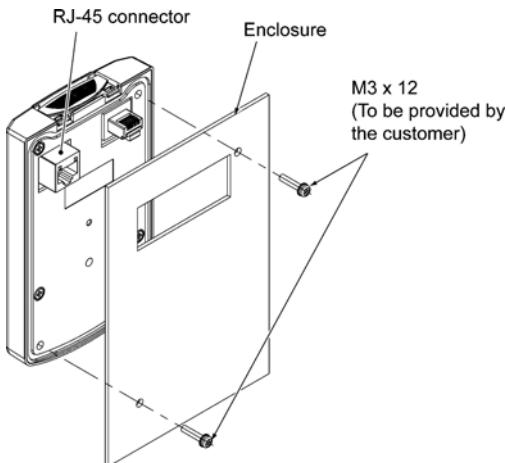

Figure 2.8 Mounting Multi-function Keypad
- ② Mount the multi-function keypad onto the enclosure with 2 screws as shown in Figure 2.8. (Recommended tightening torque: 0.7 N·m)